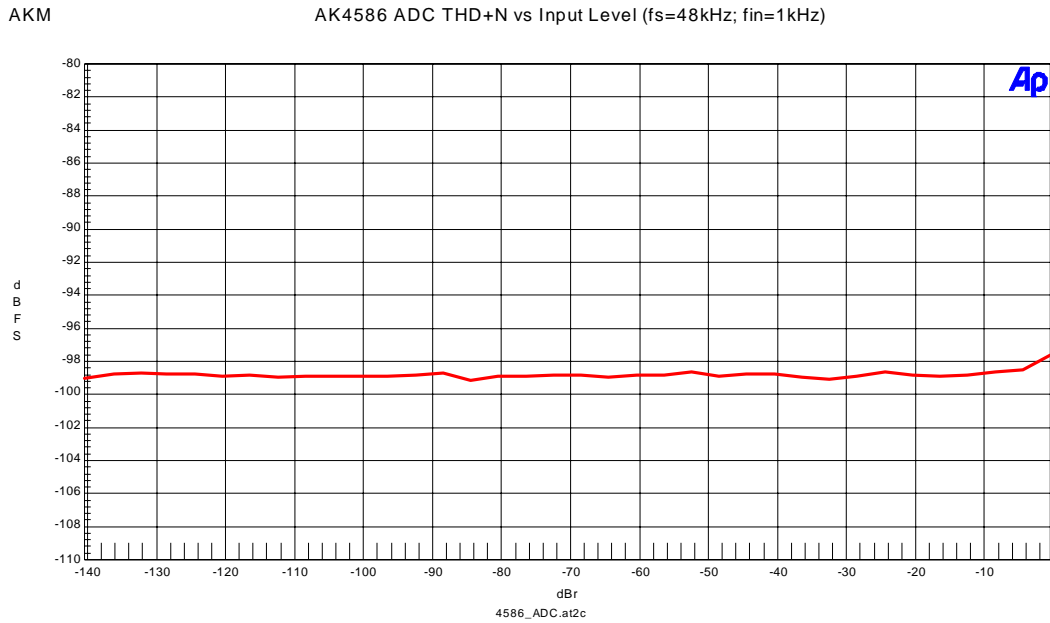

Figure 1-4. THD+N vs Input Level (fin=1kHz)
- Figure 1-4. THD+N vs Input Level (fin=1kHz)